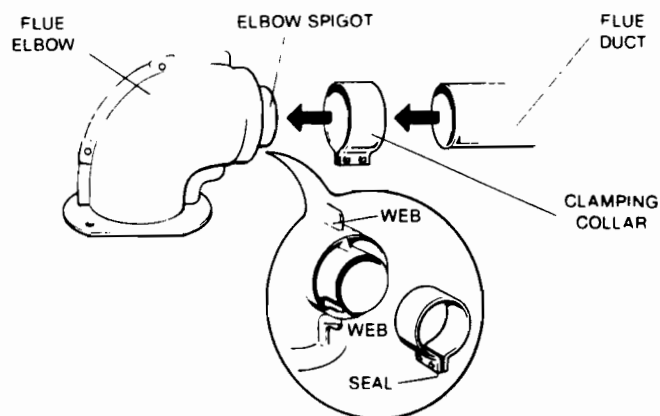

FIG. 18
- Assemble the flue duct to the elbow by sliding the clamping collar over the inner flue duct, butt the end of the duct to the elbow spigot, slide the clamping collar over the joint. Ensure that the seal at the bottom of the collar is in line with either of the two webbs inside the elbow and tighten the two screws (Fig. 18).